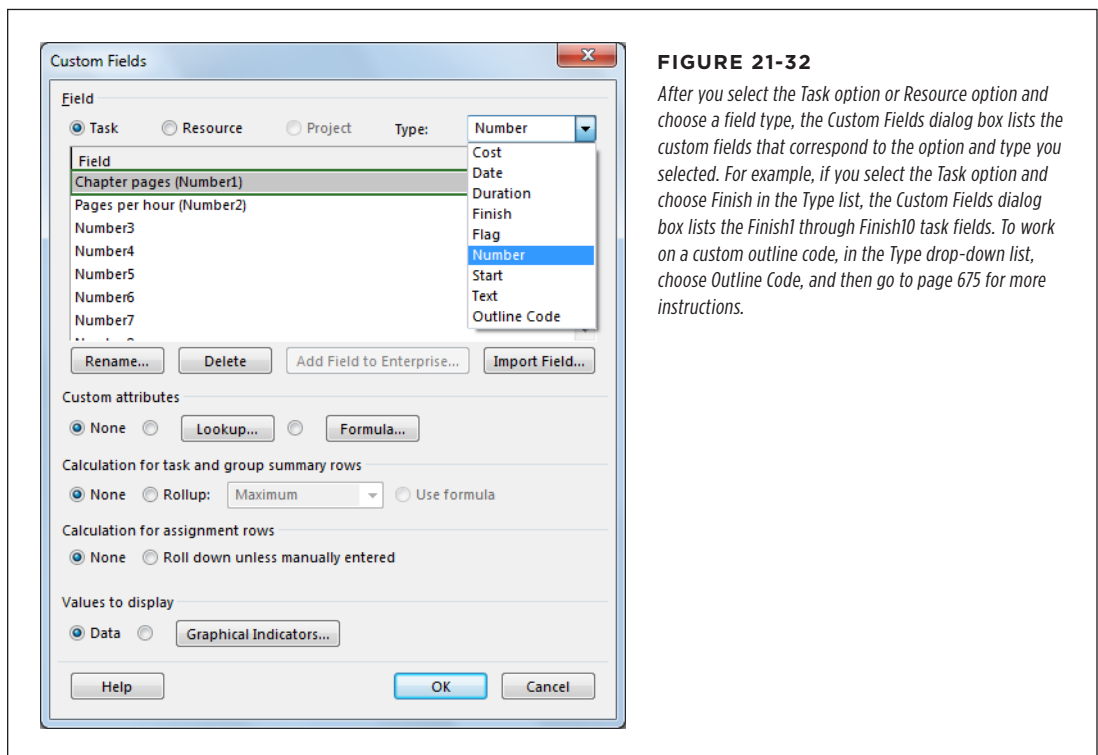

FIGURE 21-32
3. In the Type drop-down list, choose the type of field, as shown in Figure 21-32.
The alias and the original field name both appear in the field list, as shown in Figure 21-32.